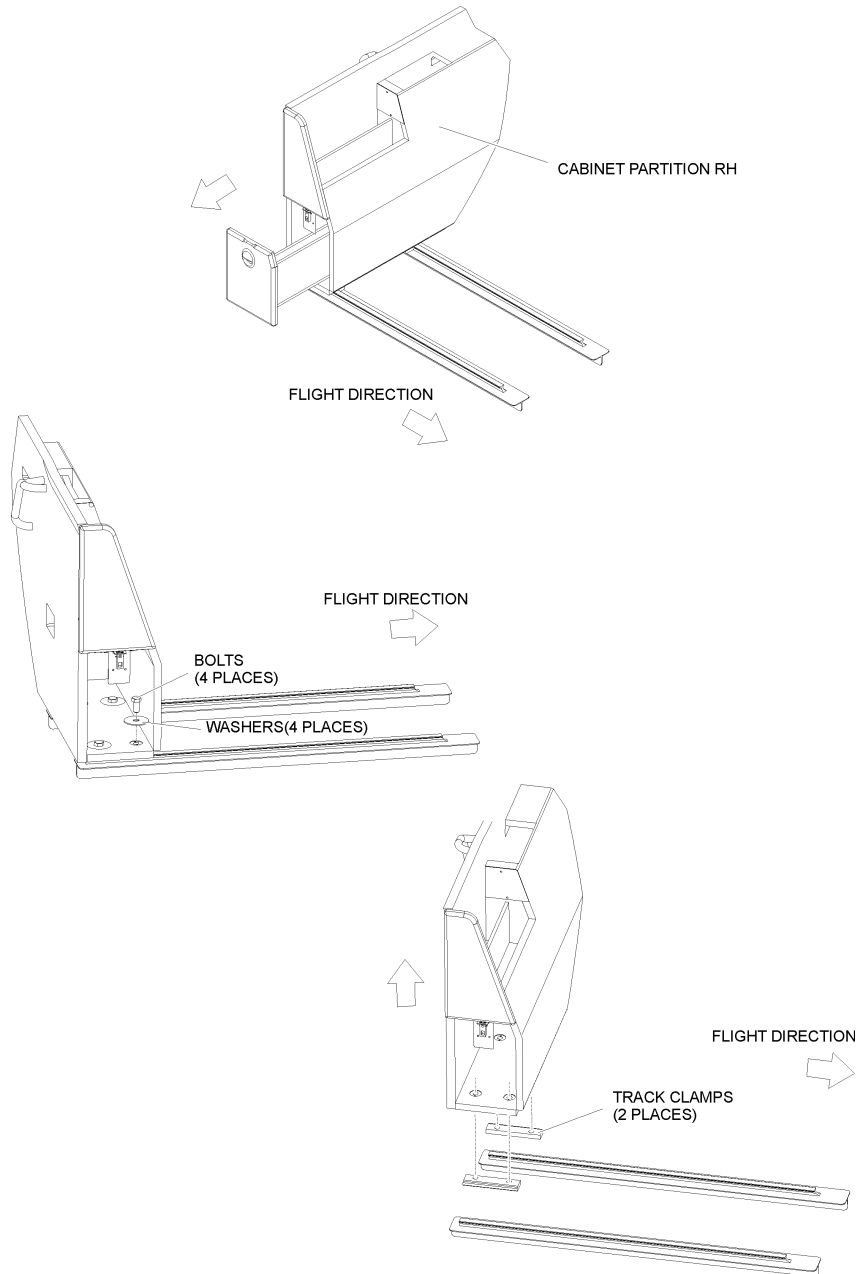

Fig. 209 - Cabinet Partition RH (Ferry Flight Configuration) - Removal
13. Cabinet Partition LH (Ferry Flight Configuration) - Removal (Ref. to Fig. 209)